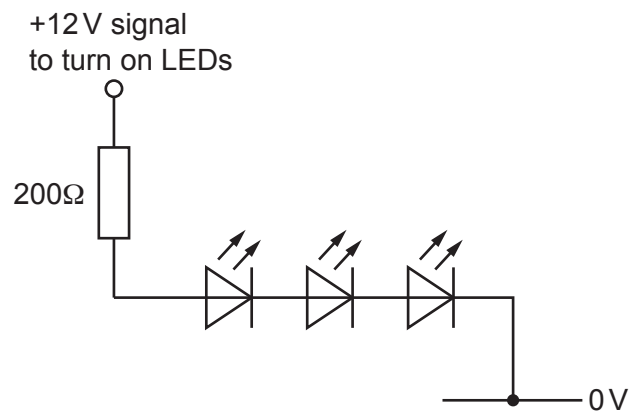

Fig. 1.3
- (iv) The oven light, located inside the microwave oven, consists of three white LEDs wired as shown in **Fig. 1.3**.
Each LED in **Fig. 1.3** has a voltage drop of 2.5V.